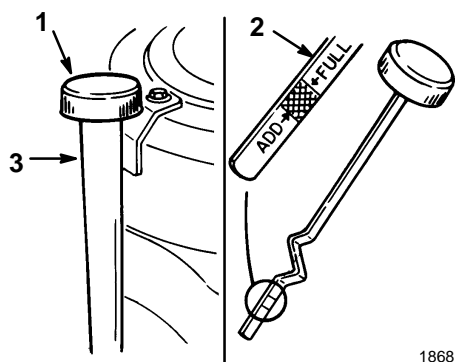

Figure 30
3. Clean around the oil dipstick (Fig. 30) so dirt cannot fall into the filler hole and damage the engine.
4. Unscrew the oil dipstick and wipe the metal end clean (Fig. 30).
5. Screw the oil dipstick fully onto the filler tube (Fig. 30). Unscrew the dipstick again and look at the metal end. If oil level is low, slowly pour only enough oil into the filler tube to raise the level to the “FULL” mark.
7. Slowly pour approximately 80% of the specified amount of oil into the filler tube (Fig. 30). Now check the oil level; refer to Checking Oil Level, page 30, steps 4–5.
5. Slowly pour approximately 80% of the specified amount of oil into the filler tube (Fig. 30). Now check the oil level; refer to Checking Oil Level, page 30, steps 4 and 5.